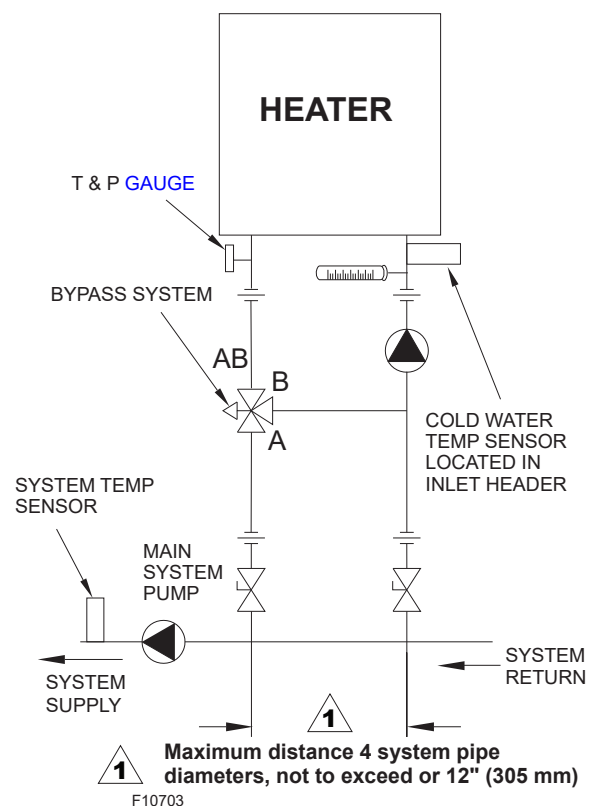
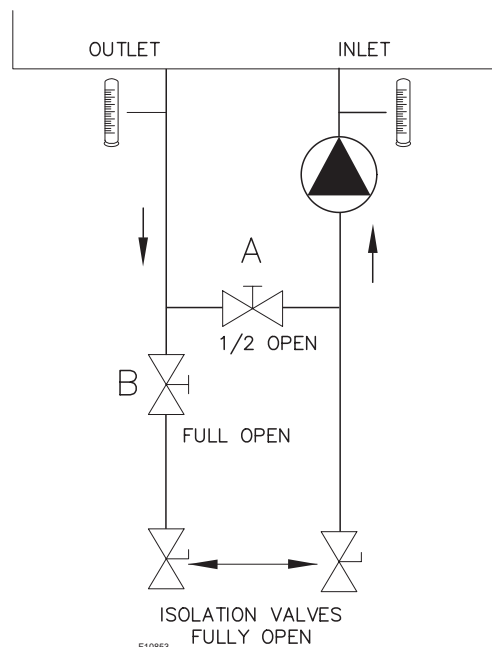

Figure 9. Cold Water Start
Figure 11. Hydronic Heating “H” Bypass Setting
Hydronic systems where the inlet water temperature is initially below 120°F (49°C) and then rises above that temperature **MUST** have a low-temperature operation system (**Figure 9** through **Figure 11**) to prevent problems with condensation. Inlet water temperatures below 120°F (49°C) can excessively cool the products of combustion, resulting in collection of condensate in the heat exchanger area beyond the capacity of the condensate evaporation system.
3. With the heater is operating at 100% firing rate, set Valve A (the bypass) to the half-open position, and Valve B to fully-open position. See **Figure 11**.